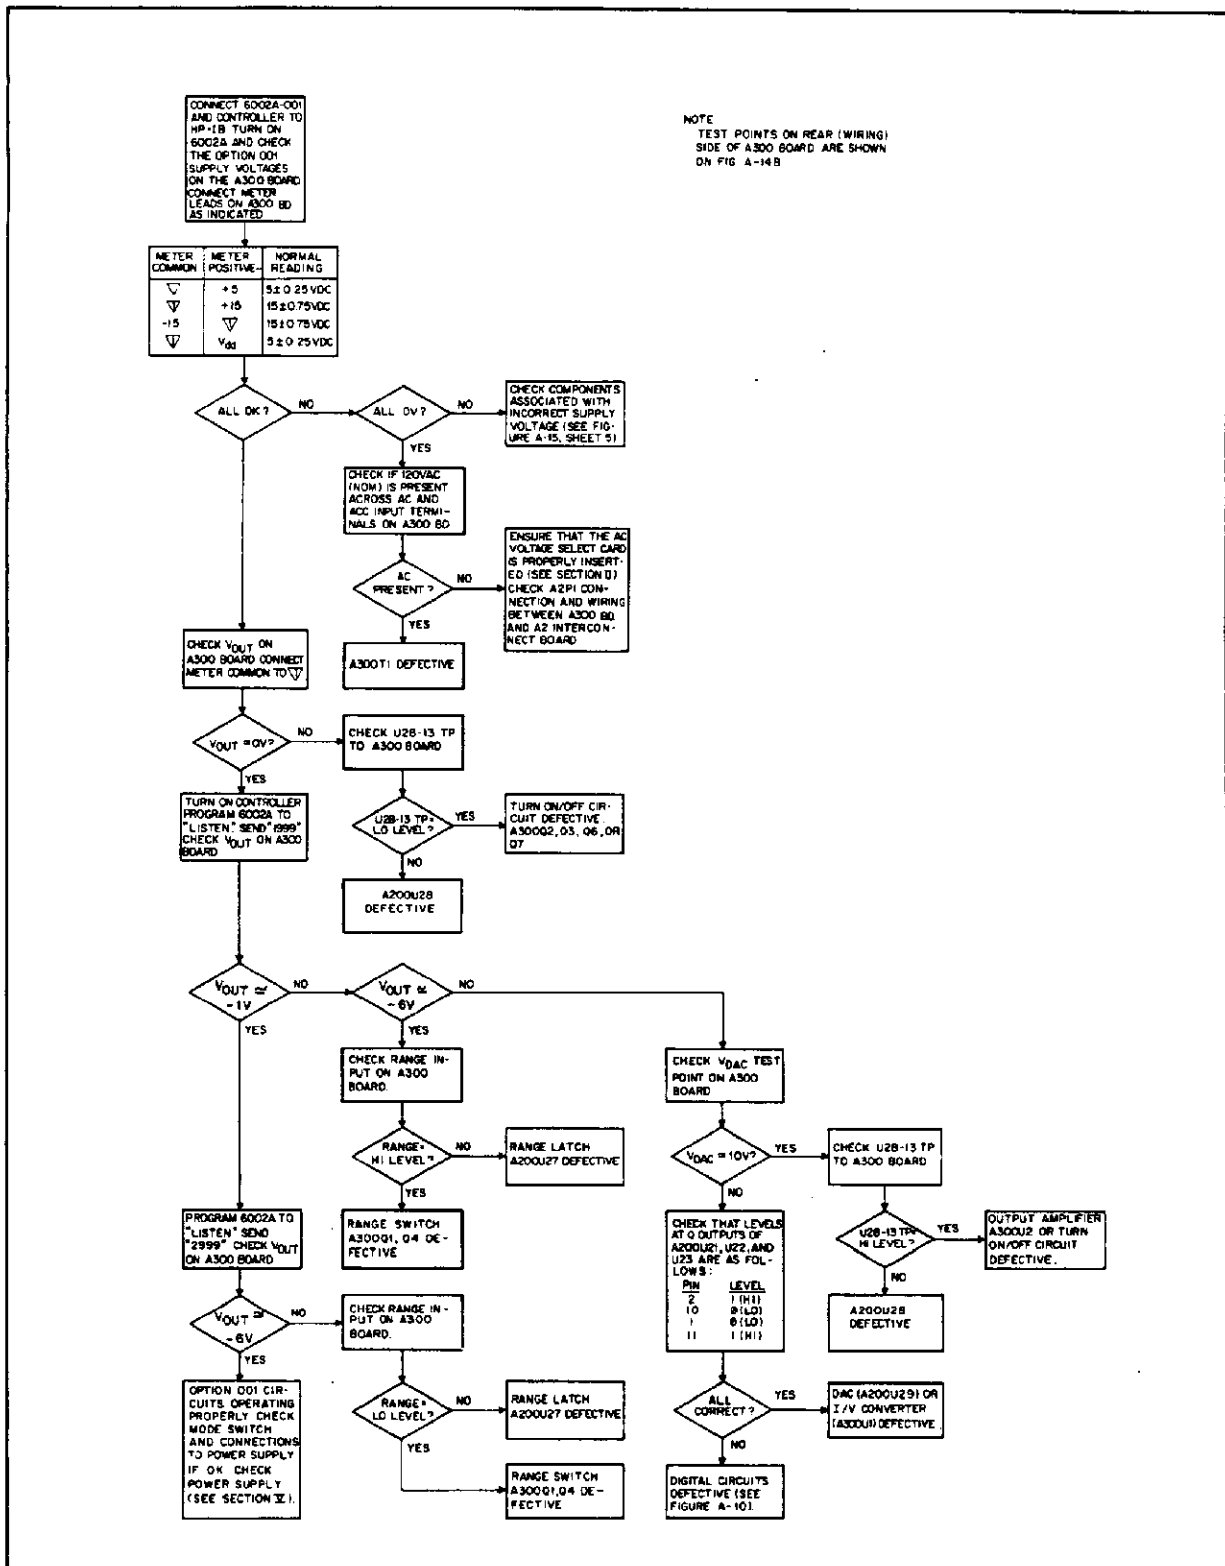

Figure A-9. Overall Troubleshooting Procedures, Flow Chart
A-96 **Overall Troubleshooting.** The overall troubleshooting procedures given in Figure A-9 isolate a malfunction to the analog or digital sections of the Option 001 circuitry, or to the 6002A power supply. Separate troubleshooting flow charts are provided for the digital circuits in Figures A-10 and A-11. Complete troubleshooting procedures for the 6002A power supply are provided in Section V.
A-97 The procedures given in Figure A-9 check the Option 001 bias supply voltages first to ensure that these voltages are correct before continuing with the troubleshooting. If the supply voltages are correct, the procedures continue to check if a malfunction is present in the analog or digital portions of the Option 001 circuitry. If a malfunction is not detected, it is assumed that the mode switch, 6002A/Option 001 interconnections, or the 6002A power supply is defective.
The check points listed on Figure A-9 correspond with those on the schematics (Figure A-15, sheets 3 thru 5) and component location diagrams (Figures A-13 and A-14) for the A200 and A300 boards.
**A-110** Figures A-12 through A-14 illustrate the physical location and reference designations for the parts on Option 001 printed circuit boards A100, A200, and A300. The circuit boards are functionally separated and included on schematic diagram, Figure A-15 (sheets 1 through 5). The functional circuits and test points shown on the schematic coincide with those on the component location diagrams and troubleshooting flow charts (Figures A-9 through A-11).